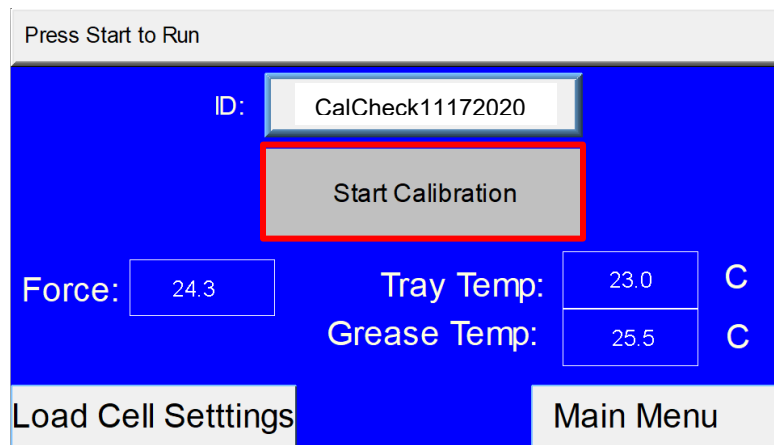

Figure 10 Calibration Screen
8. To enter or edit the sample ID, select the sample name field on the Calibration screen (shown below in **Figure 10**) using the touch screen. Use the alpha-numeric keypad to enter the sample name and press “Enter” to confirm. This name should uniquely identify the run being performed. For example cal or calck followed by the date and a sequence identifier if multiple runs are performed on the same day. (e.g. calck0714a) Use the alt key on the keypad to cycle through the pages of characters.